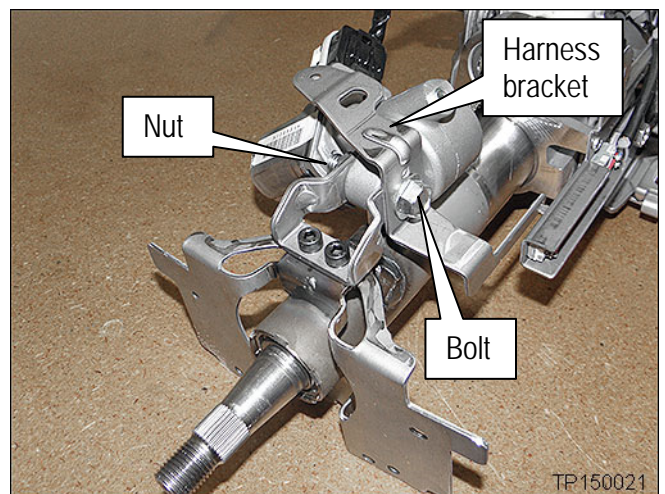

Figure 4
- a. Remove bolt with nut shown in Figure 4.